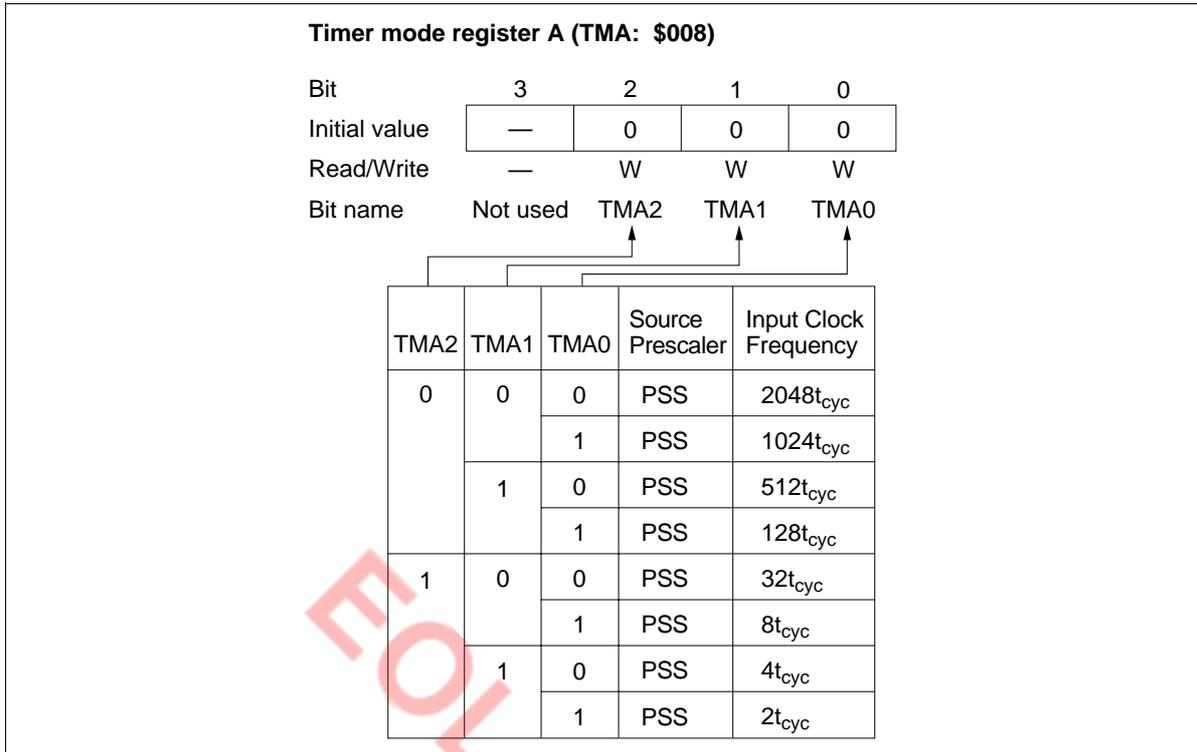

Figure 30 Timer Mode Register A (TMA)
- Timer mode register A (TMA: \$008): Four-bit write-only register that selects timer A's operating mode and input clock source as shown in figure 30.